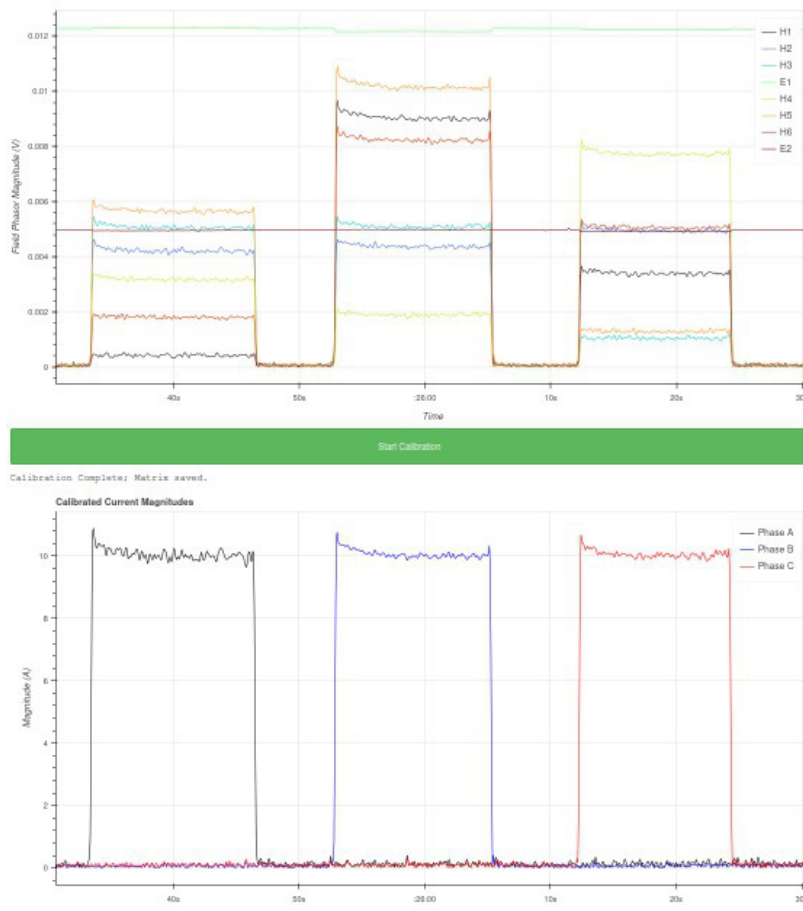

Figure 31. Live data is buffered and displayed during the calibration process.
record a calibration sequence using symmetric loads on each phase of the cable and handles the automatic generation of the calibration matrix using the standard load-based calibration method. This application can be accessed from the Home > Load-Based Calibration page, and it requires that the quick_calibrate.py Bokeh plot is enabled in order to run. Users can ensure that this is running using the ViPERS Home > Modules > Plots page. See Modules (Dataserver) (10) for more information about enabling/disabling plots. After its running requirements have been met, the Load-Based Calibration page will provide live instructions and a live plot to assist users in recording the calibration sequence. The UI for this page can be viewed in Figure 31.